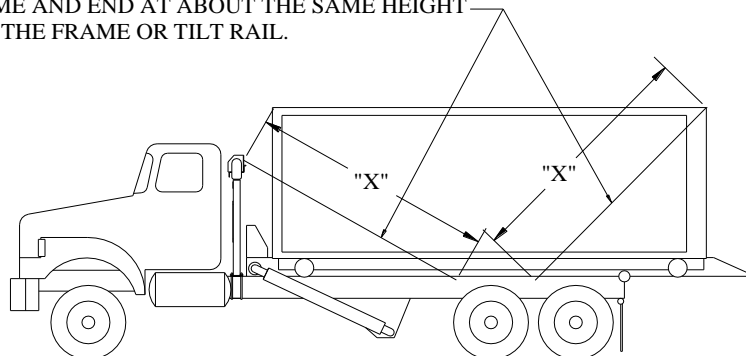

**Figure 1**
- 1) With the tower in the lowest position, take a measurement from where the tarp will enter the housing to a point that is slightly before the middle of the container and make a mark. REMEMBER THAT MEASUREMENT. Refer to Fig. 1 below.